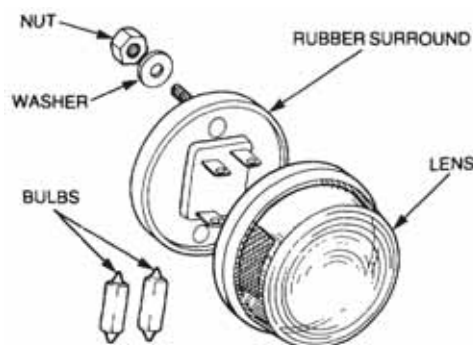

Figure 23 Stop/Tail and Number Plate Light – Exploded View
58. **Lamp Replacement.** Replace faulty lamps as follows (Figure 23):
**59. Light Unit Replacement.** Replace the light unit assembly as follows (Figure 23):